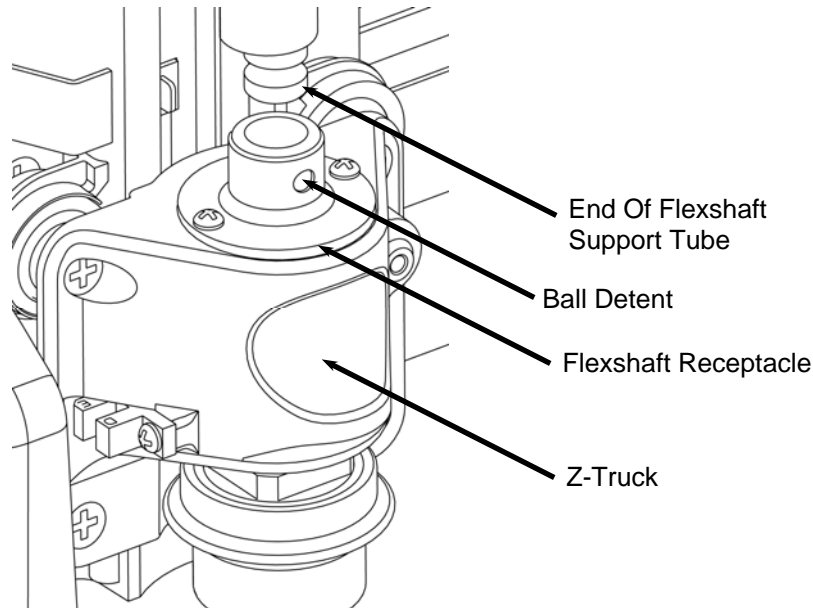

FIGURE 3: VIEW OF THE FLEXSHAFT CONNECTION TO THE Z-TRUCK
3. **Detach the flexshaft from the top of the Z-truck.** The flexshaft assembly is retained by a ball detent located in the flexshaft receptacle (See Figure 3). Firmly grasp the flexshaft support tube while reaching under the clear front cover with your other hand to grab the Z-truck. Pull up firmly on the flexshaft support tube and twist slightly while bracing the Z-truck. **DO NOT PULL ON THE SHEATH.** The flexshaft will pop out of the detent. Wrap the end of the flexshaft in tape so that the core will not fall out and lay the detached flexshaft end to the side.